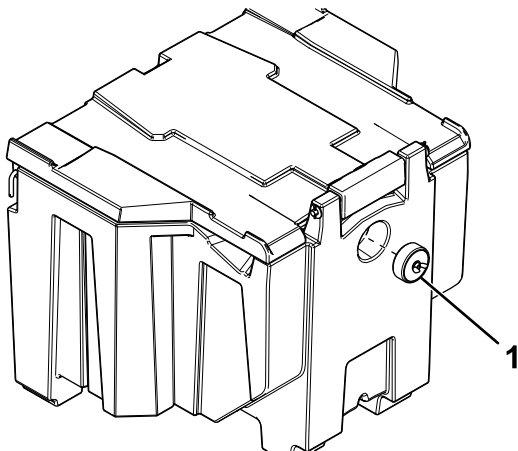

Figure 13
1. Loosen the wing nut on the QuickCube plug and remove the plug (Figure 13).